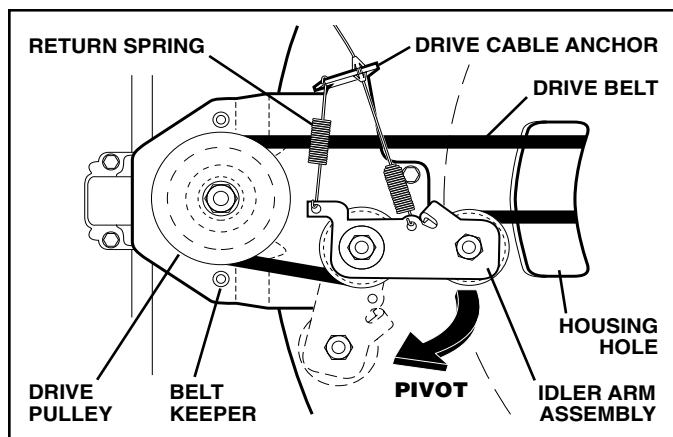

FIG. 17
3. Remove drive cable from anchor, then detach it and return spring from idler arm assembly (See Fig. 17).
9. Install new drive belt into idler arm assembly, then around the drive pulley. Be sure belt is inside of belt keepers (See Fig. 17).